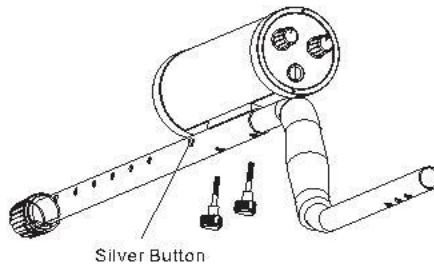

Fig.4
4. Loosen the two triangular fastening screws at the bottom of the control box, install the control box on the stem, and lock it. (see Fig.4)